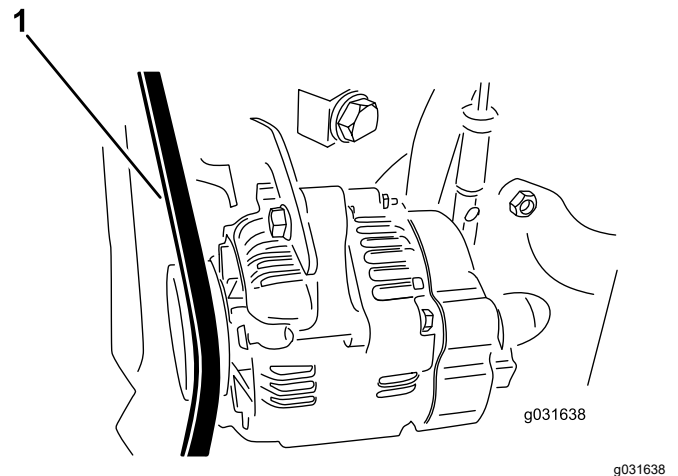

Figure 59
2. Apply 30 N (22 in-lb) of force to the alternator belt, midway between the pulleys (Figure 59).